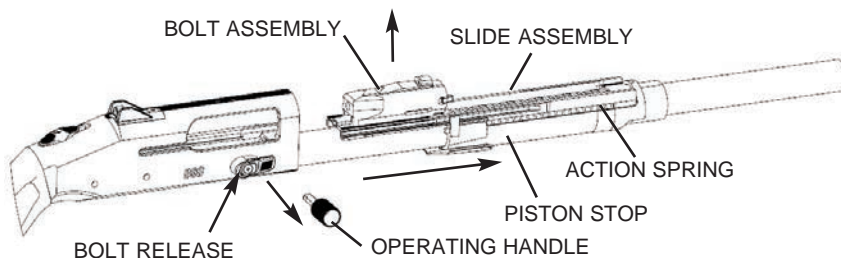

Figure 13
1. Ensure the bolt is closed. Pull the operating handle straight out of the bolt assembly (Figure 13).
Using a solvent, clean all components of the action including the bolt and slide assemblies (Figure 13) to remove accumulated residue. Using a rag, remove any deposits from the piston stop. Action parts will remain cleaner, longer, if lubrication is used sparingly.